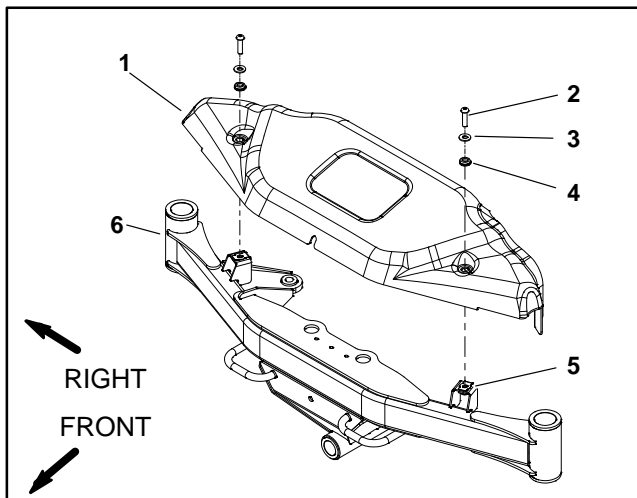
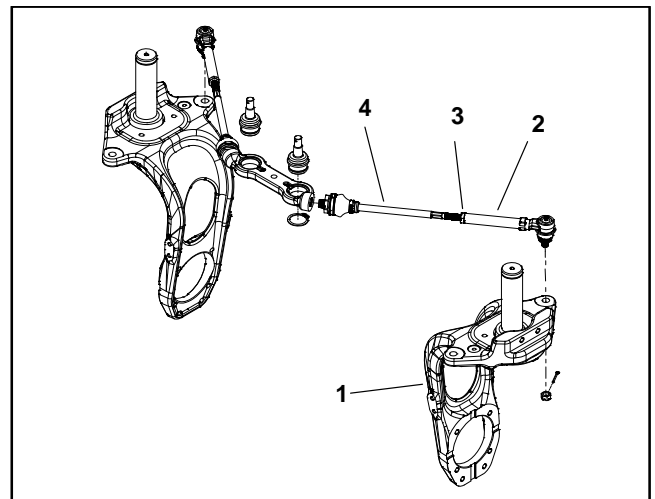

Figure 7
Figure 11
3. Remove front cover from front axle to allow access to front steering components (Fig. 7).
10. If straight edge does not contact the tires at four (4) points, adjustments to tie rods are necessary to align wheels (Fig. 11).
11. After tie rod adjustment has been completed, make sure that straight edge contacts the front and rear tires at four (4) points. Repeat tie rod adjustment if necessary.
- D. Install front cover to front axle (Fig. 7).